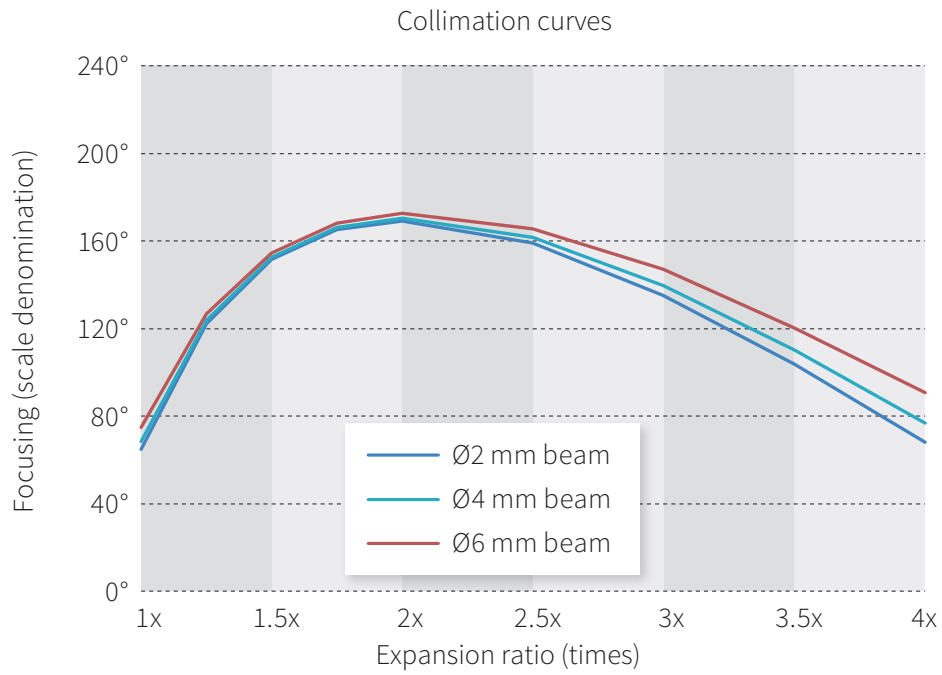

Figure 21. Collimation curves.
4. Depending on input beam diameter, collimation might require slightly shifted setting than indicated on the curves above. Please refer to the graph below for comparison of collimation curves for Ø2 mm; Ø4 mm and Ø6 mm beams @ 532 nm (fig. 21).